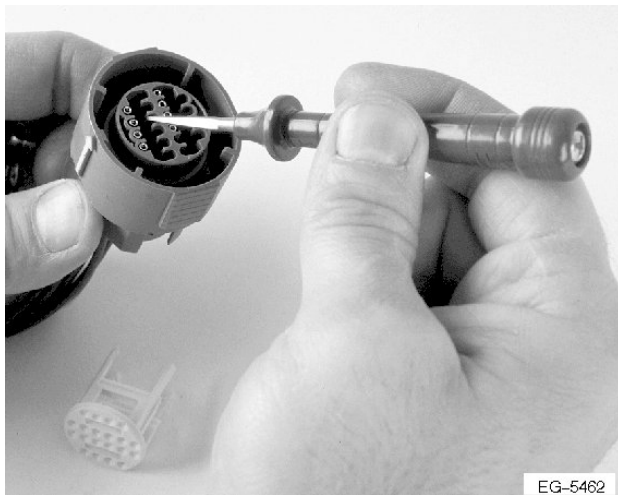

Figure 279 Release Locking Finger
2. Insert a narrow blade into the connector to lift the retaining finger away from the terminal (See Figure 279, page 446).